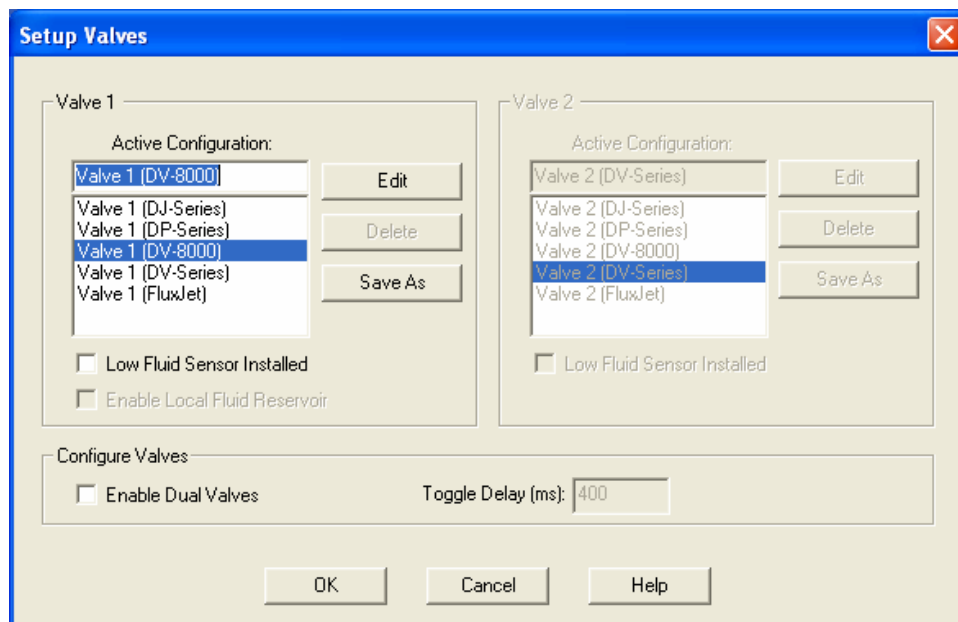

Figure 3-16 Fluidmove Setup Valves
- ▶ The Setup Valves screen (Figure 3-16) opens.
- a. In the Setup Valves dialog box, click on **Edit** (Figure 3-16).